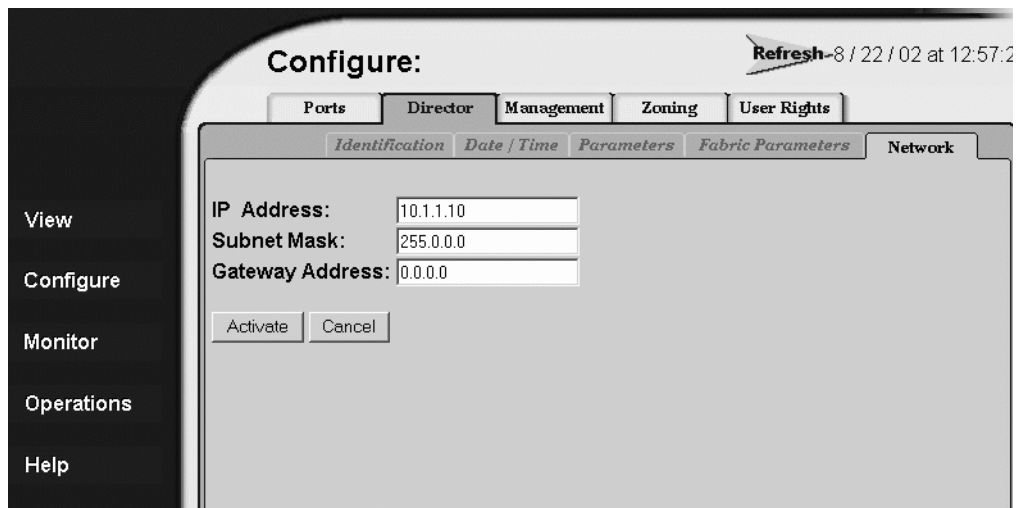

Figure 3–10: Network page
2. At the **Configure** page, click the **Director** tab, then click the **Network** tab. The **Network** page displays, as shown in Figure 3–10.